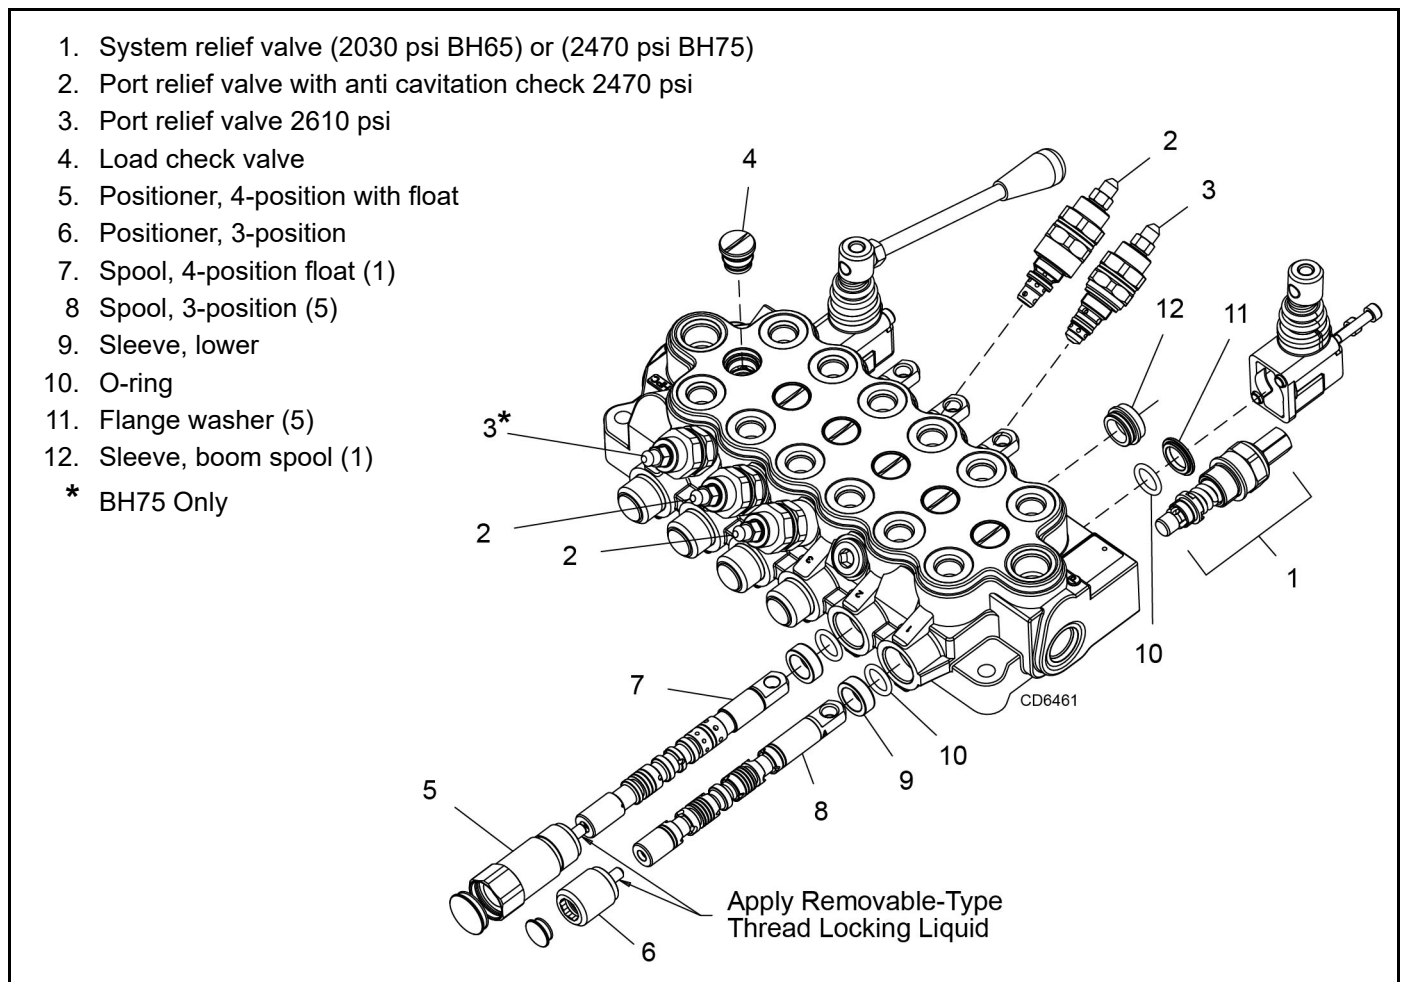

Figure 12. BH65/75 Control Valve Assembly
Refer to Figure 12.
To adjust relief valve setting, place a 3000 psi pressure gauge in the line attached to the valve inlet (IN) port. Remove cap from top of main relief (1, Figure 12). Turn adjusting screw clockwise to increase pressure and counter clockwise to decrease pressure. Start tractor and set throttle for full engine speed. Move right stabilizer control lever to raise stabilizer to transport position and hold the lever so full pressure builds. Adjust screw to attain 2030 psi for BH65 or 2470 psi for BH75. Shut off tractor and replace cap.
Position spool wipers (A) (Figure 12) on swing, dipper, and bucket spools in linkage plate. Reinstall control linkage. Note the screws installed in the boom and dipper spools should be tightened until snug, then backed off approximately $\frac{1}{2}$ turn to allow free movement of the joystick.